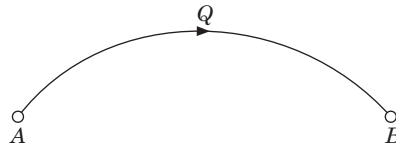

Fig. 1.3 Principle of heat radiation.
3. Radiation. Radiation is the transfer of heat in the form of electromagnetic waves. Thus, thermal radiation reaches B from A directly, like the throw of an object, as illustrated in Fig. 1.3. For radiative heat transfer, therefore, the presence of a medium is not necessary.